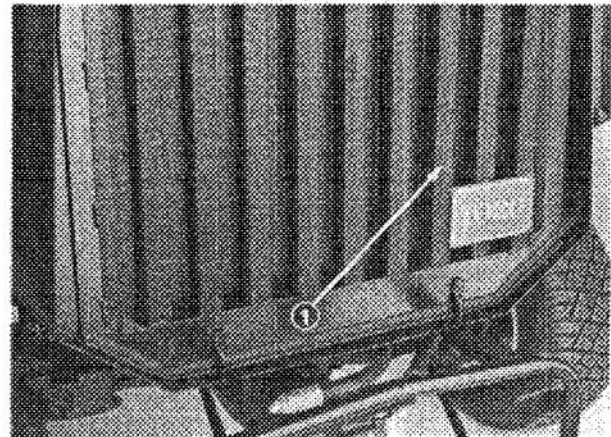

Figure 43
ENGINE COOLING SYSTEM (Fig. 43)
B. Unlatch and remove rear screen (Fig.43). Clean screen thoroughly.